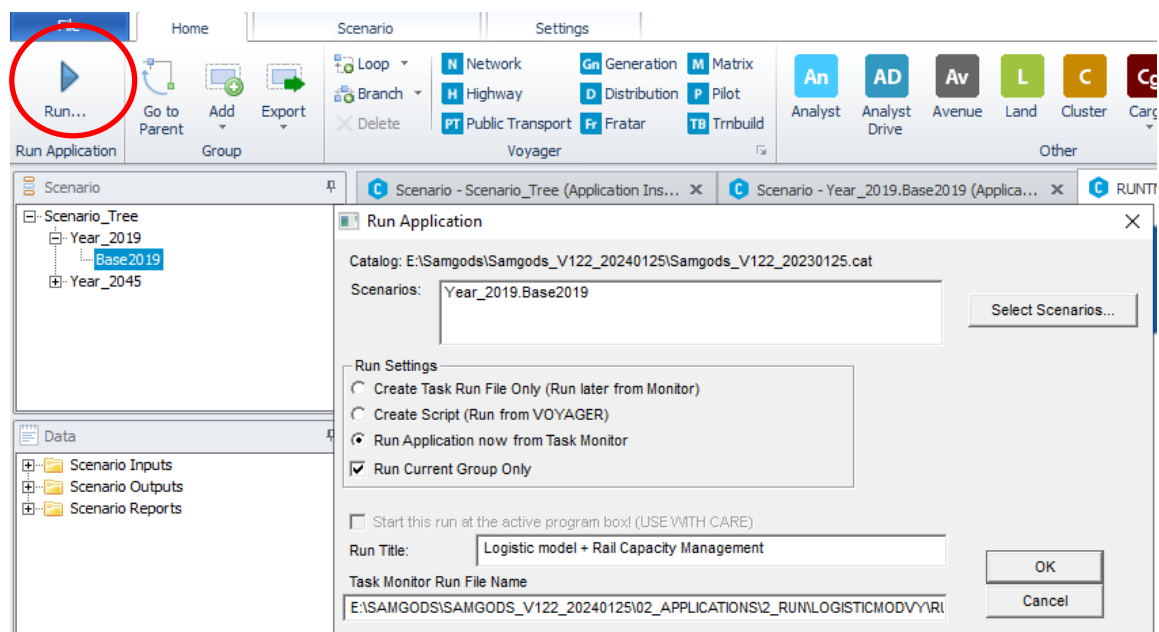

Figure 97 Restart from failure
- 4) In pop-up menu "Run Application", select "Run Application now from Task Monitor" and tick "Run Current Group Only", see settings in Figure 97